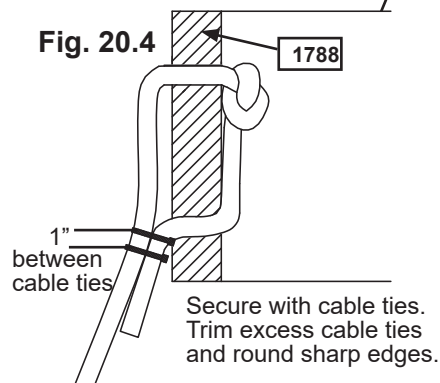

Fig. 20.4
- D:** Secure the Acro Swing ropes with 2 Cable Ties per rope. Be sure to trim the Cable Tie excess and round off any sharp edges. (fig. 20.4)